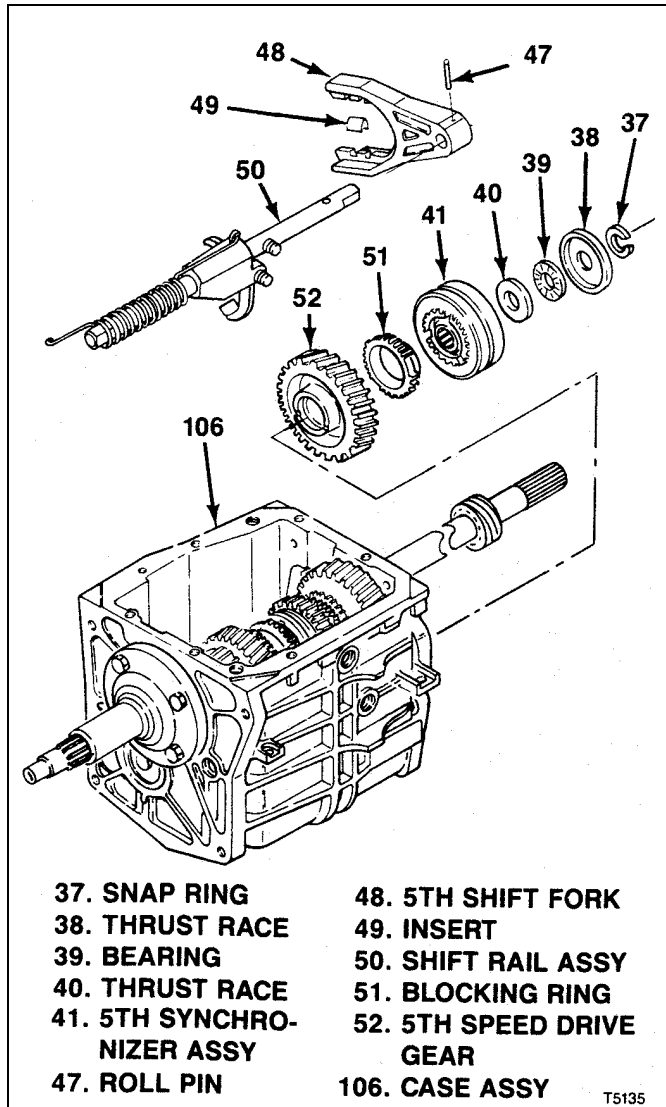

Figure 4-5. T5 STD 5th Synchronizer, Shift Fork and Gear
- c. Work 5-R shift lever (36) out of engagement and lift out top of transmission case (106).
**4-11. REMOVAL OF T5 STD 5TH SYNCHRONIZER, SHIFT FORK AND GEAR.** At rear of transmission case (106), remove parts as follows (see figure 4-5):
- a. Remove snap ring (37), thrust race (38), bearing (39) and thrust race (40).
- b. Simultaneously pull 5th synchronizer assembly (41) and 5th shift fork (48) with attached shift rail assembly (50).